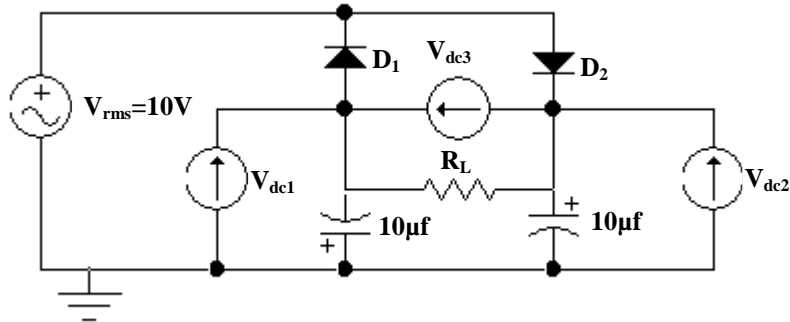

Fig. 1: Experiment set up of the circuit.
1. The circuit in Fig. 1 made up. The load resistor R_L left out (running off-load, removed).